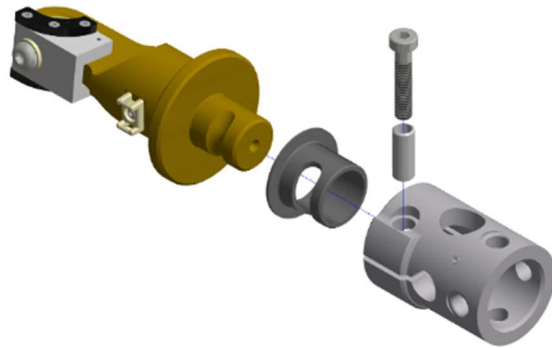

Figure 11-14. Remove the M6 X 1 X 30 LG. LHCS to separate the Upper Arm Load Cell Adaptor (484-6112) from the Distal Upper Arm Tube Assembly (474-6115)
- 11.2.11 Remove the M6 X 1 X 30 LG. LHCS to separate the Upper Arm Load Cell Adaptor (484-6112) from the Distal Upper Arm Tube Assembly (474-6115) (Figure 11-14).